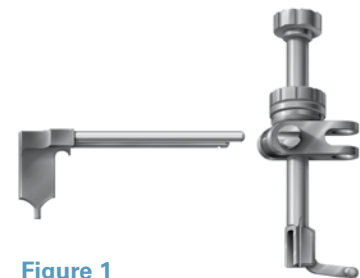

Figure 1
4. tibial cutting block fixation lever (*Figure 1*).